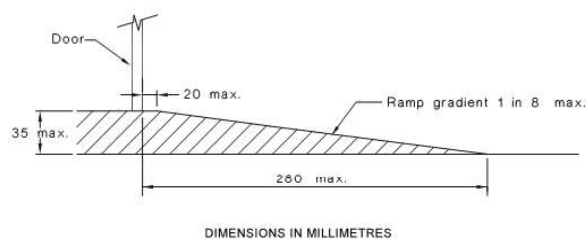

FIGURE 21 THRESHOLD RAMP
66. The maximum threshold of all doorways must not be greater than 3mm to satisfy AS1428.1 for people with disabilities. Any threshold ramp must comply with AS1428.1 - 2009 Figure 21